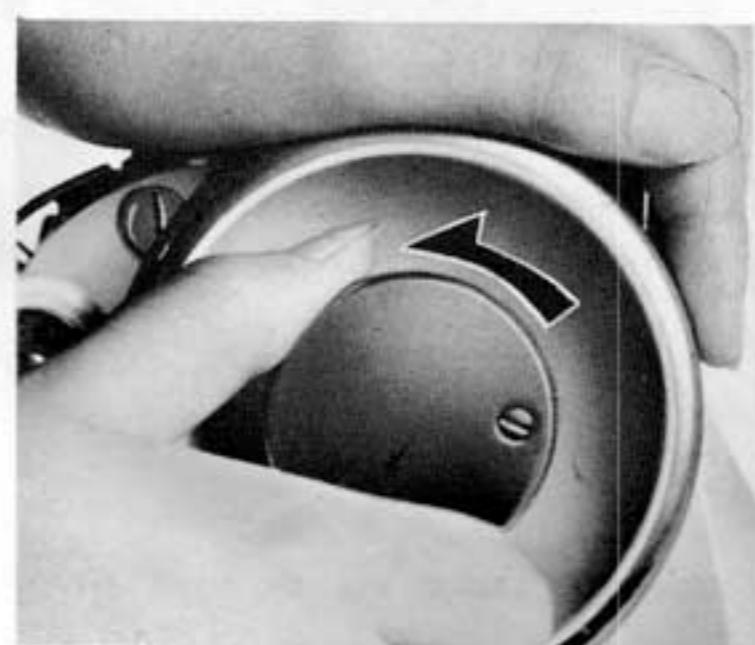

Fig. 22
1. To wind the bobbin, the balance wheel must be disconnected from the stitching mechanism. Hold the balance wheel with your left hand and turn the stop motion knob (Fig. 22) towards you with your right hand. This will permit the balance wheel to turn freely while the needle bar remains motionless. The balance wheel is now disconnected for the bobbin winding operation.
Houdt het vliegwiel met de linkerhand vast en draai de remschijf naar U toe (fig. 22).